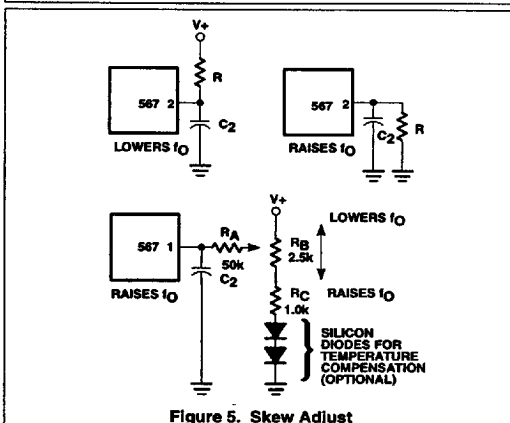

Figure 5. Skew Adjust
**DETECTION BAND CENTERING (OR SKEW) ADJUSTMENT** (Figure 5)